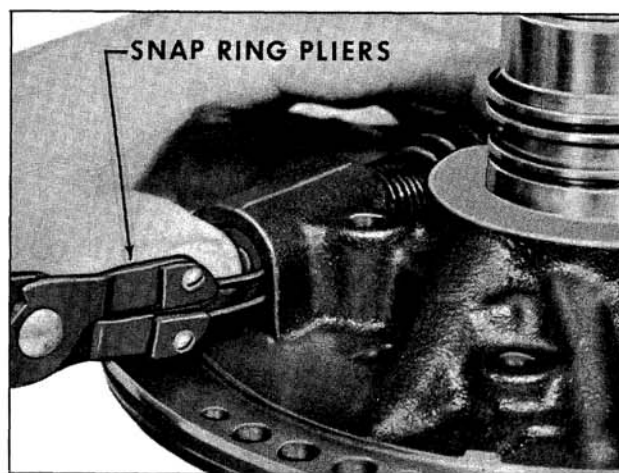

Fig. 6-415 Removing Snap Ring
10. Compress reverse and modulator boost valve with thumb and remove retaining snap ring. (Fig. 6-415)